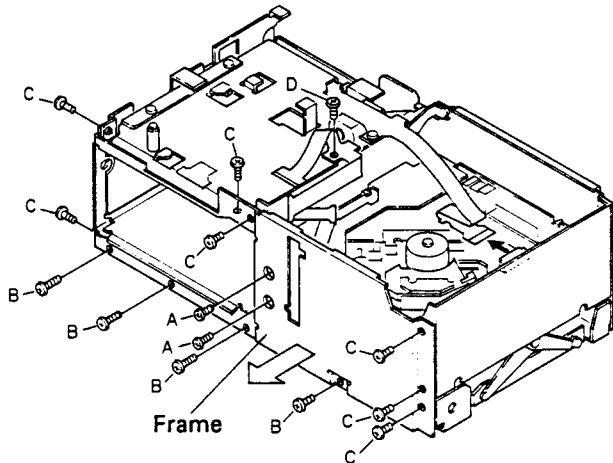

Fig. 5
2. Remove four screws B seven screws C and detach the frame. (Fig. 5)
3. Remove screw D and detach the P.C. Board. (Fig. 5)
4. Disconnect the connector and detach the P.C. Board. (Fig. 5)
13. Install the P.C. Board on the connector. (Fig. 5)
14. Fix the P.C. Board with screw D. (Fig. 5)